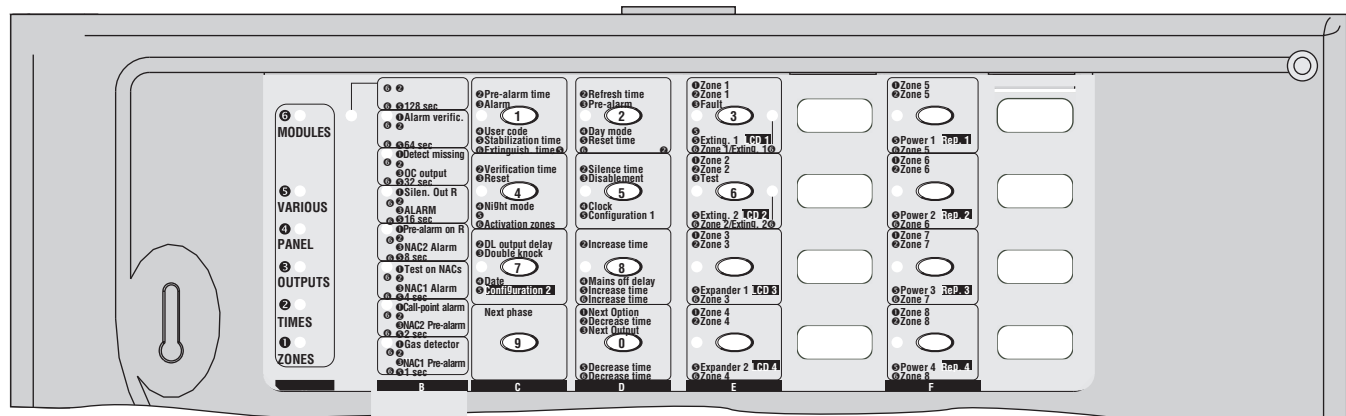

Figure 28 Using the Programming Overlay with a J408 Control panel
4. Remove the cut-outs (for the LEDs), and insert the tabs of the Programming Overlay into the Zone label slots, as shown in Figure 28.